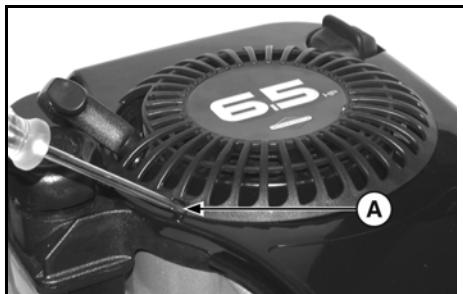

Figure 5
- Remove air cleaner cover. Using flat bladed screwdriver, press on tab (A, Figure 5) and lift finger guard off engine.